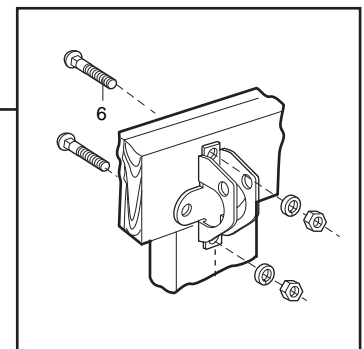

Figure 4
- Use top and bottom or side to side door bracket holes. Drill 8mm (5/16") holes through the door and secure bracket with 8mm x 65mm (5/16"x2") (6) carriage bolts, lock washers and nuts. (Figure 4)